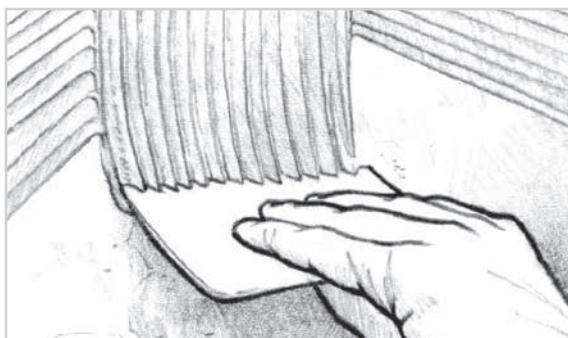

Figure 14-7 Apply the fairing compound with the notched spreader. Control the height of the ridges by the angle you hold the spreader.
4. Apply the fairing compound with the notched spreader (Figure 14-7). Hold the spreader at a higher angle to leave deeper ridges on the lowest areas and at a lower angle to leave shallower ridges on the higher areas. The tops of the ridges should be slightly above the finished fair level. Allow the fairing compound to cure thoroughly.